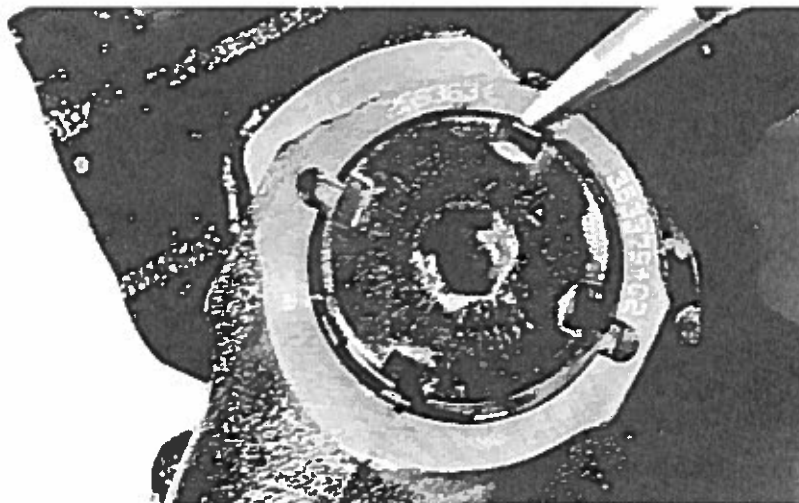

Figure 8
11. Inspect the retainer to see if two of the restraining tabs align with the notches in the retainer. If they are not aligned, continue tightening until two of the restraining tabs align with the notches in the retainer (Figure 8).